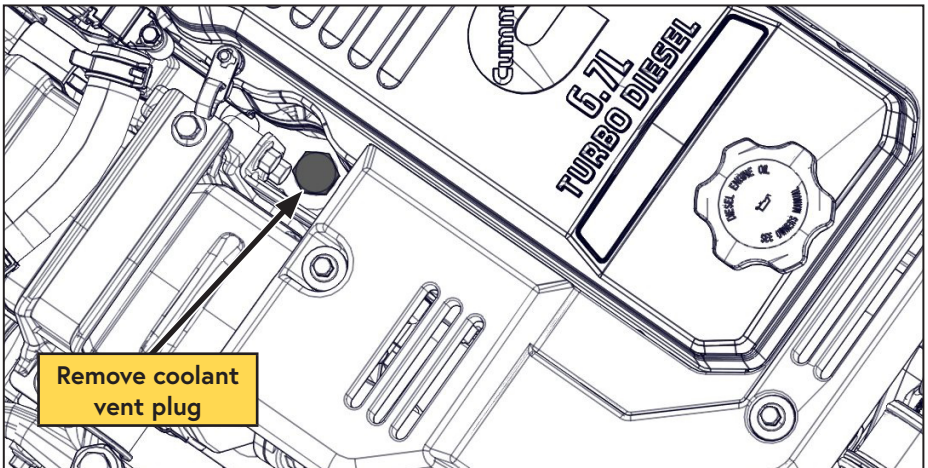

Figure 37 — Coolant vent plug
- ☐ Remove and discard the plug from the passenger side of the cylinder head (Figure 37).